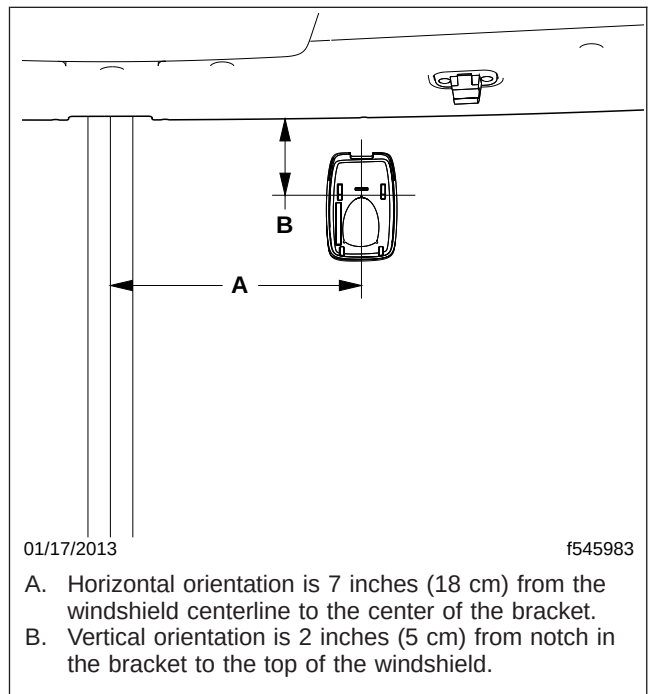

Fig. 3, Mounting the Camera Mounting Bracket
5. Install the camera mounting bracket. From the center of the mounting bracket, measure 7 inches (18 cm) from the windshield centerline, and 2 inches (5 cm) from the notch in the rim of the camera bracket and the top of the windshield. See **Fig. 3**.